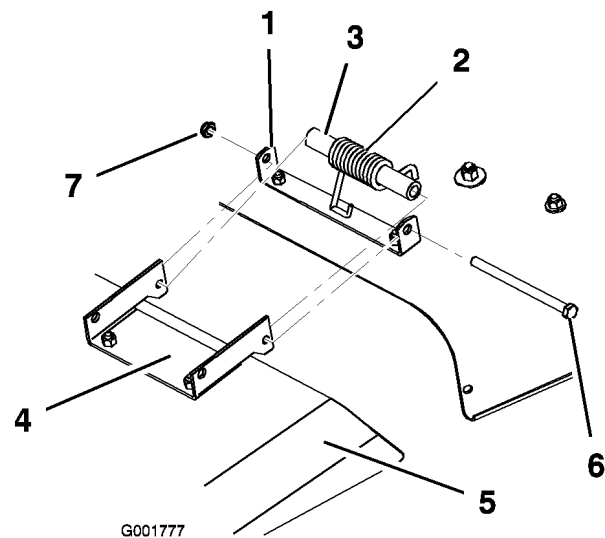

Figure 49
1. Remove the locknut, bolt, spacer, and spring holding the deflector to the mower brackets (Figure 49). Remove the damaged or worn grass deflector.
2. Align the grass deflector with the holes in the brackets and the spring and spacer straight ends in the space between the brackets and above the deflector (Figure 49).
3. Place the spring and spacer so that the hooked ends of the spring are pointing down, with one end contacting on the mower deck and the other over the deflector (Figure 49).